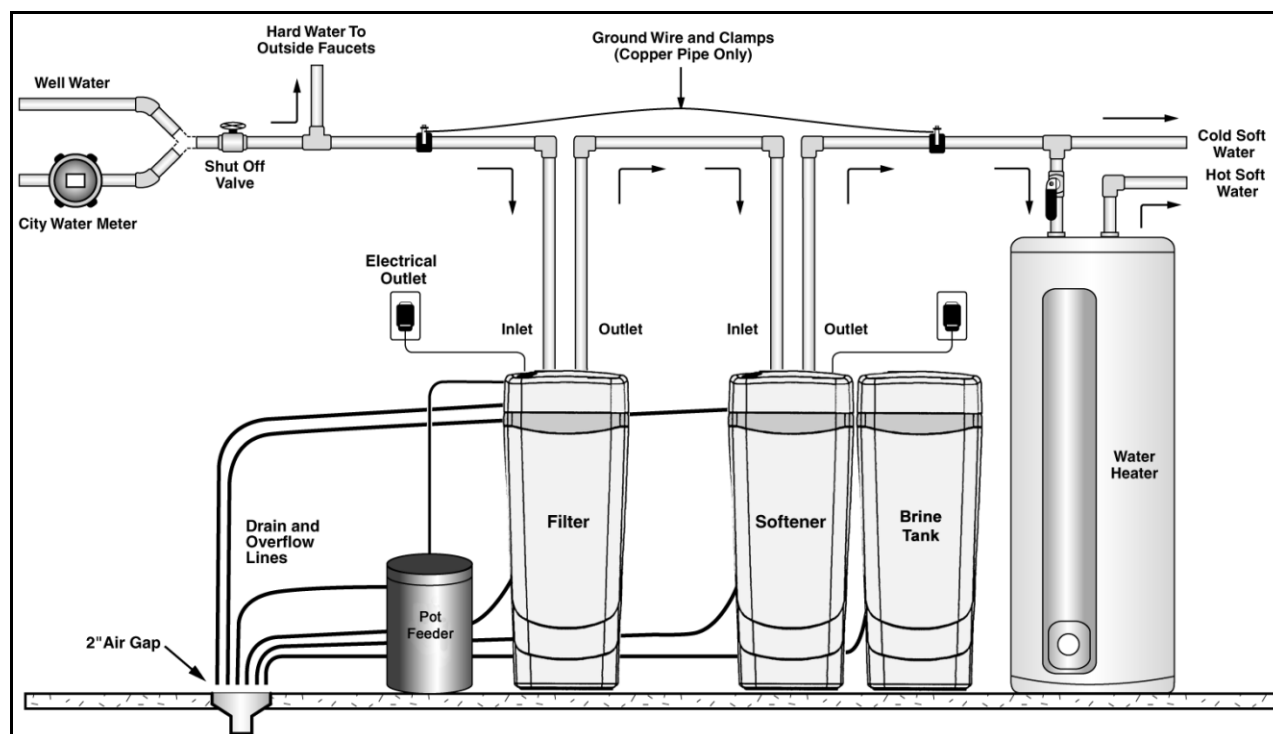

Figure 6: Iron Filter and Potassium Permanganate Feeder Placement
Note: The iron filter should be installed after the pressure tank or water meter and before the water heater or any water softener appliance, unless otherwise recommended. See Figure 6. A minimum 3/4-inch pipe is required for proper function of the filter. Examine the inlet piping to make sure the pipe is not plugged with lime or iron. If the piping is plugged, it must be cleaned or replaced.
- C. See Figure 6 for feeder placement.